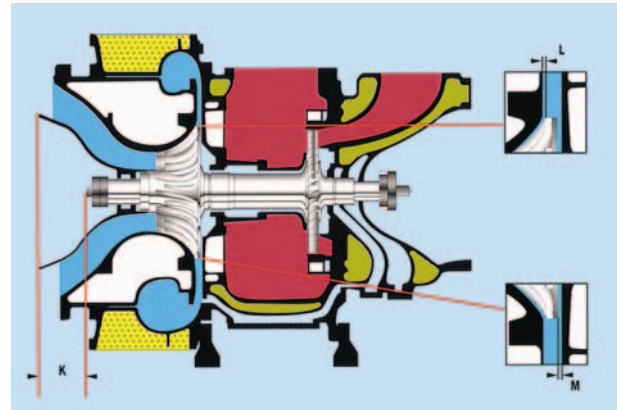

Fig. 1
- Measure dimension K (see Fig. 1).